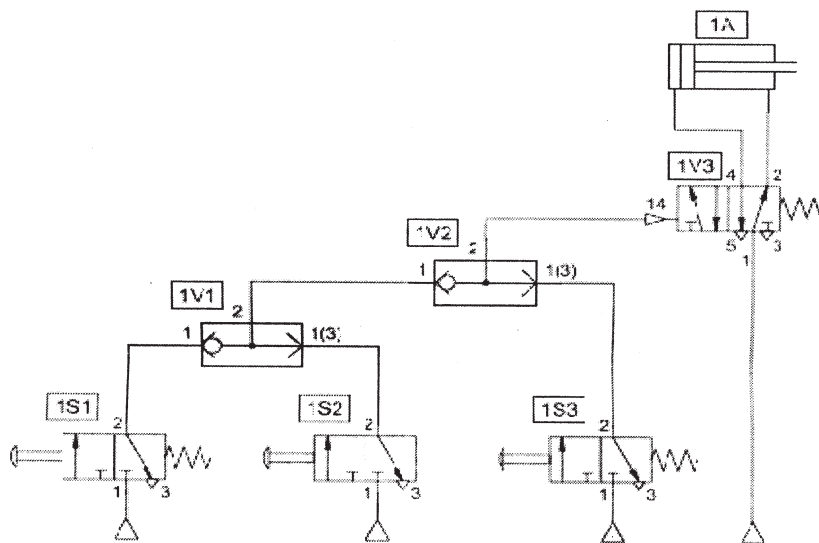

Figure 8b
- b)** Analyze the circuit shown in Figure 8b. **[6]**